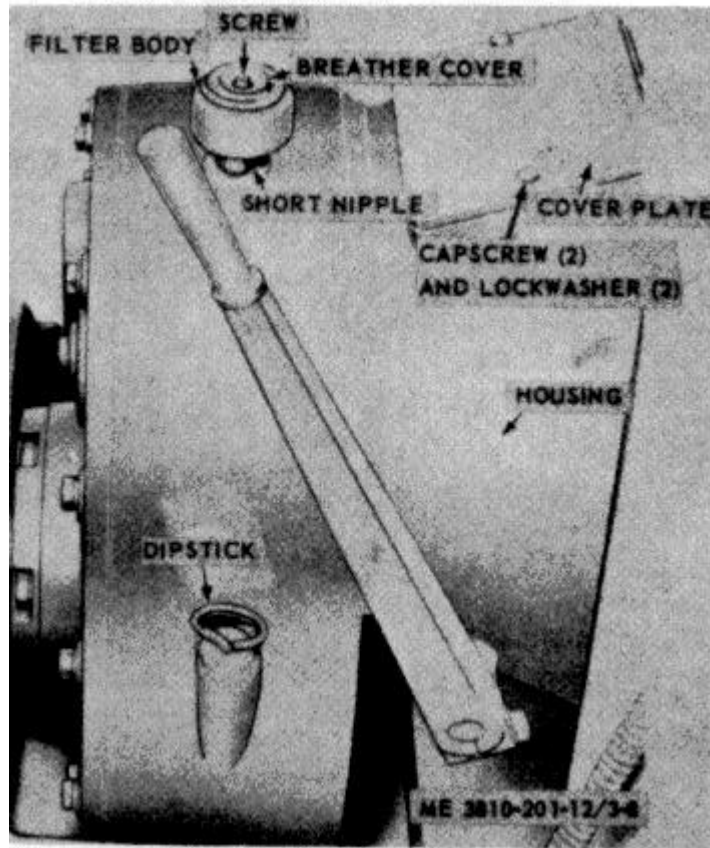

Figure 3-8. Power take-off breather service and cover removal.
(1) Refer to current lubrication order LO 5-3810-201-12 for correct interval, then remove and service power take-off breather as directed below.
(2) Refer to figure 3-8, remove screw and breather cover, then remove filter body from short nipple by turning body counterclockwise. Cover short nipple with a clean cloth to prevent entry of contaminating material into power take-off.
(3) Clean all parts in an approved cleaning solvent then dry thoroughly with low pressure compressed air.
(4) Inspect filter wire mesh for damage, or other defect to body. Replace a defective filter body.
(5) Install in reverse order.
(6) Refer to lubrication order LO 5-3810-201-12 for interval and lubricant, then change as required.
(1) Refer to figure 3-8, remove two capscrews, lockwashers, and cover plate from housing.
(3) Remove screw, lockwasher, and lock spring from the adjusting ring.
(4) Unlock the adjusting ring by turning lockpin 1/4 turn counterclockwise.
(5) Turn the adjusting ring clockwise to tighten clutch, counterclockwise to loosen.
(6) Test clutch by engaging clutch control lever. When the clutch is properly adjusted, a distinct pressure is required to engage clutch control lever.
(7) When adjustment is correct, lock adjusting ring by turning lock pin 14 turn clockwise.
(8) Position lock spring in the adjusting ring and secure with lockwasher and screw.
(9) Position cover plate (fig. 3-8) on housing and secure with two lockwashers and capscrews.